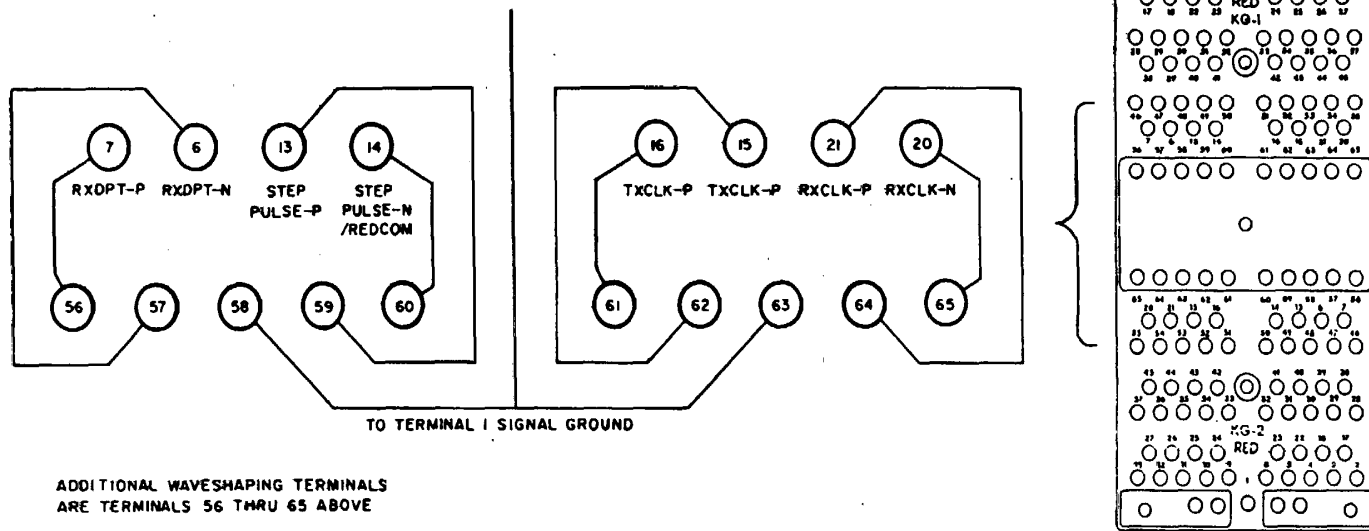

Figure 4-1. RED Terminal Block
These capacitors are then connected to the Red and/or Black FPA terminal boards. Additional terminals have been provided for this purpose and are shown in Figures 4-1 and 4-2. For a balanced interface, connect the capacitor across the (P) and (N) lead. For an unbalanced interface, connect the capacitor from the active lead to signal ground.